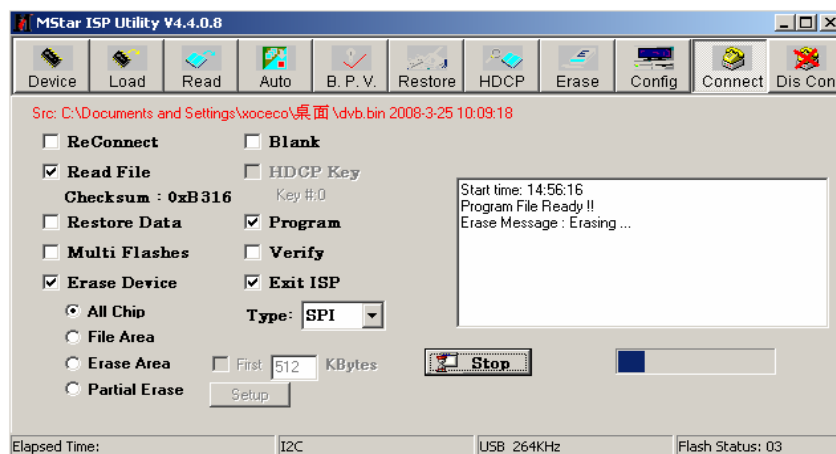

Fig. 18 Option switches
- e) Press menu “**Auto**”, tick options “**All chip**”, “**program**” and relative option switches, please refer to Fig. 18, press key “**Run**” to begin burning;